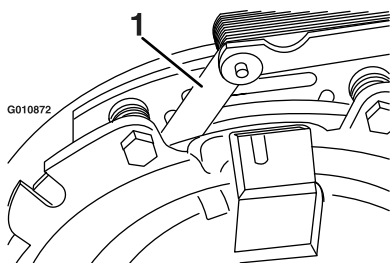
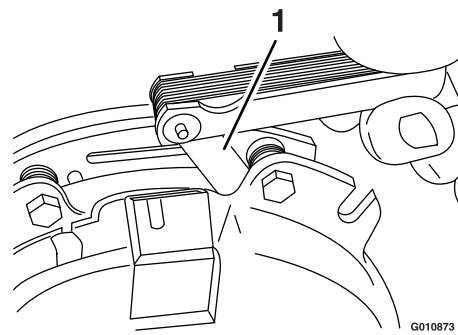

Figure 74
Figure 75
- E. Using a 0.25 mm (0.01 inch) thick feeler gauge, verify that a gap is present between the rotor and the armature face on both sides of the brake pole as shown in Figure 74 and Figure 75.